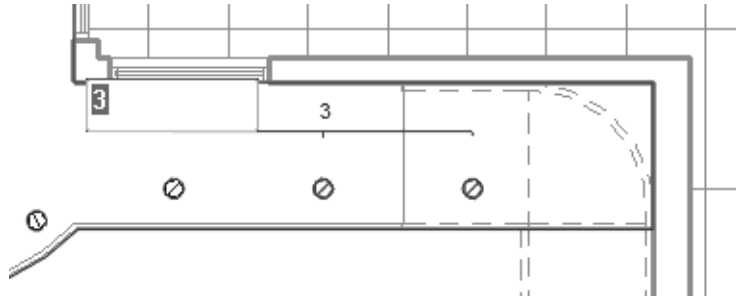

Figure 2–53
6. If the **Group and Associate** option is selected, you are prompted again for the number of items, as shown in Figure 2–53. Type a new number or click on the screen to finish the command.